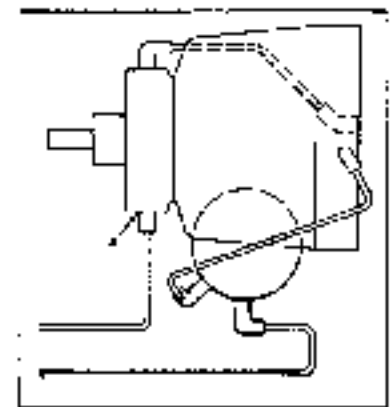

FIGURE 6-4
To check the hydrostatic pressure install the gauge into a free hydraulic fitting between hydrostatic port (A) Figure 6-4 and existing hydraulic tube. Start engine and run for 5-10 minutes. At full R.P.M. the pressure reading should be 140 PSI \pm 50 (964 kPa).